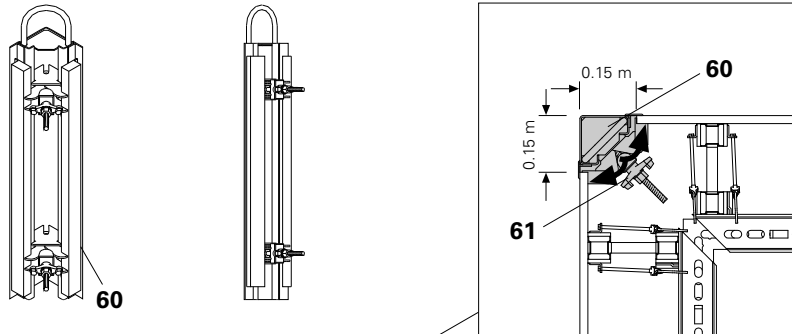

Fig. C3.02
1. Position internal element and install Quick Release Corner SSE (60) in the corner.
2. Tighten wingnuts (61) on the SSE. The formlining is then fixed. (Fig. C3.02)